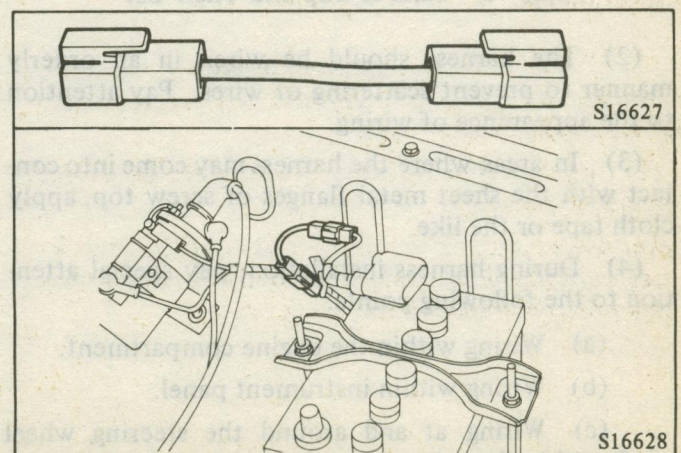

Fig. 78 Fusible Link
(1) Check fusible link for continuity with a tester. Visual inspection is not enough to detect a melted fusible link. (Fig. 78)
(2) If the fusible link is burnt out within 15 seconds after power is supplied, a current as high as about 100 to 150A is flowing through the circuit. Be sure not to use a fusible link beyond capacity or standard wire.
(3) When the fusible link is melted, a dead short may be the cause. Check for dead short very carefully, and eliminate it completely.